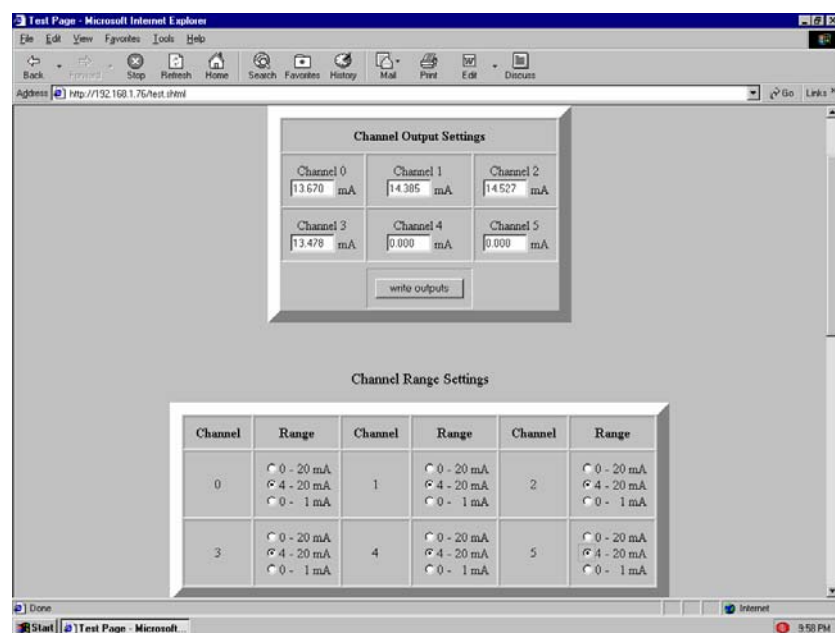

FIGURE 8 Analog Output Modules, Test Page
2. Select the desired range configuration. See Figure 8.